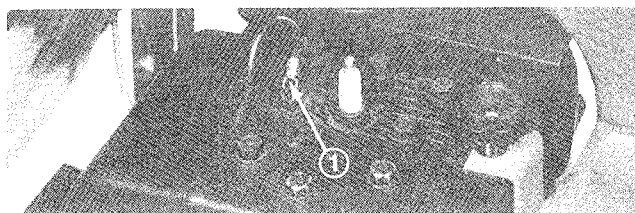

Figure 18
1. Pull wire off spark plug and install in V-notch (Fig. 18).